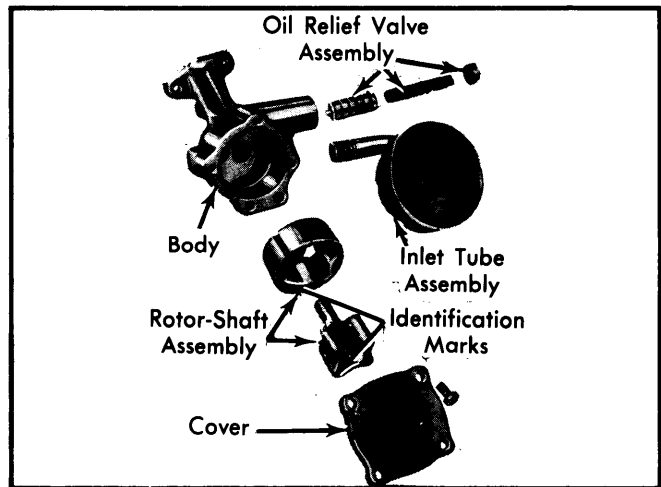

Fig. 13 Exploded View of Oil Pump Assembly
**Disassembly** — Remove oil inlet tube, cover bolts and cover from pump. Remove inner rotor and shaft assembly, then remove outer race. See Fig. 13. Drill a small hole and inset self-threading sheet metal screw into oil pressure relief cap and pull from chamber. Remove spring and plunger.